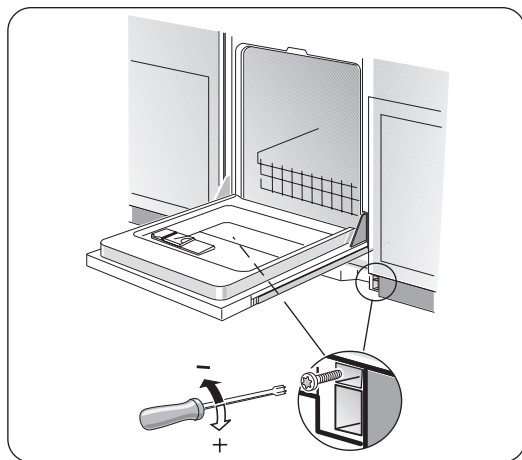

Figure 29
- 2 Insert the screws as shown in **Figure 29**. Turning the screw clockwise increases the spring tension.